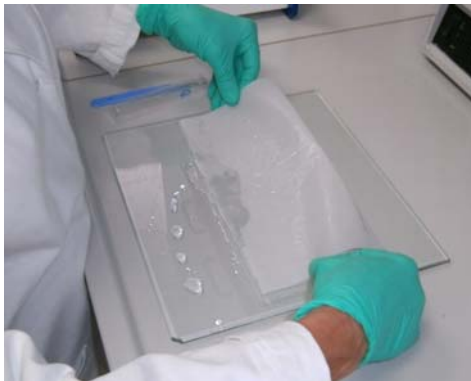

Fig. 13
- Place activated PVDF membrane on the gel (Fig 13).